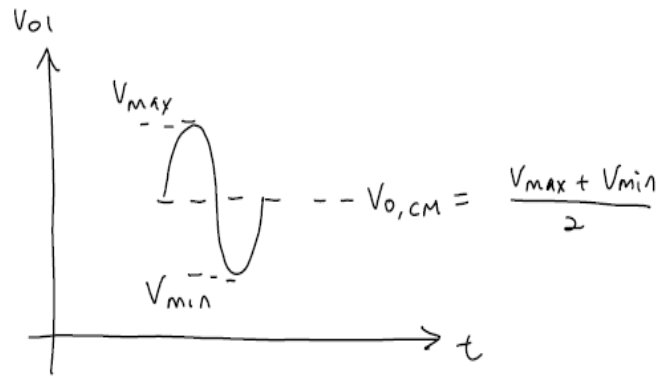

Fig.3 – How to determine $V_{o,cm}$
- c. Your common-mode output voltage, $V_{o,cm}$, should be between 0.45V to 0.65V. (See Fig. 3 on how to find $V_{o,cm}$ from your waveform).
- f. When running your transient simulation, use a 'Stop time' of $1000/BR$ and 'Maximum timestep' of $0.1/BR$, where bitrate (BR) = 1Gbit/s. (Note that when we specify an expression in spice, we need to enclose them in $\{\}$ brackets).